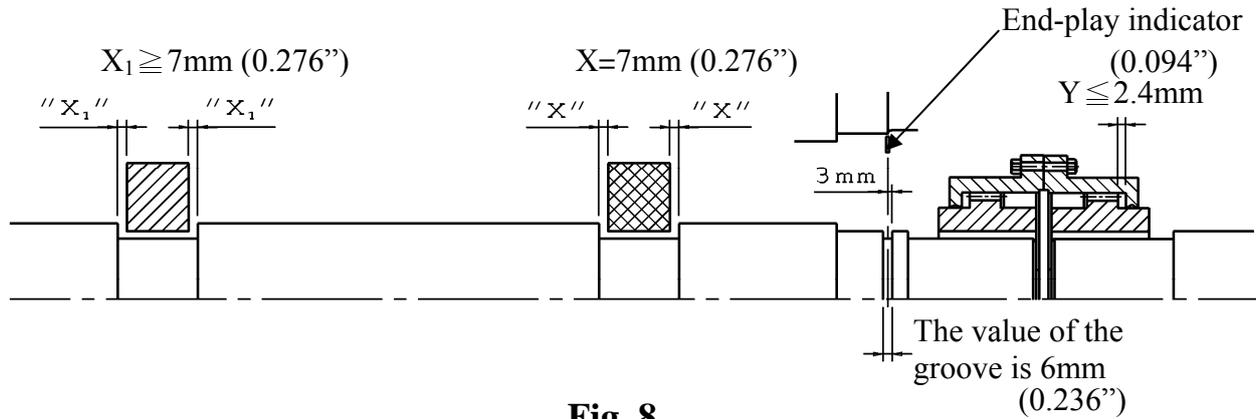

Fig. 8
- Unless otherwise specified, the designed end-play value X of the groove for TECO motors in general is within 7mm (0.276") as illustrated in Fig. 8. In essence, the end-play indicator is adjusted to point at the center of the groove or the drive-end shaft shoulder; thus X equals to 7 ± 1 mm (0.276"±0.039") or so, and the end-play value (Y) of the couplings should equal or be smaller than 2.4mm (0.094").